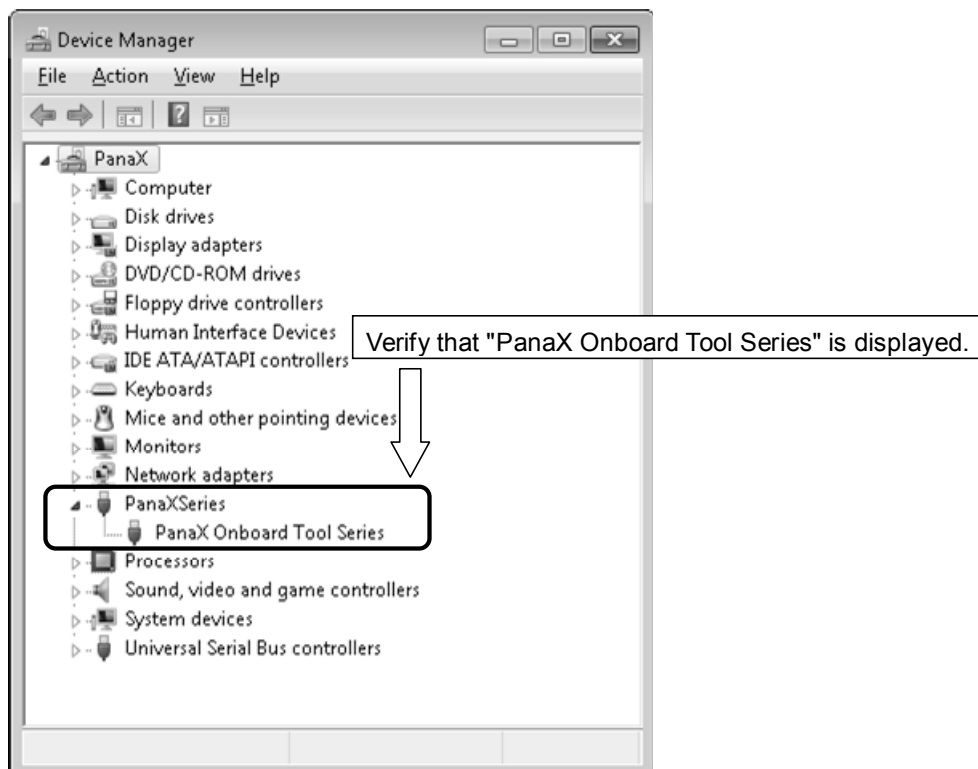

Figure 2.2.5 Device Manager
3. From the [Start] menu, select [Control Panel], and click [System and Security], and click [Device Manager] to display the [Device Manager] window shown in Figure 2.2.5. Verify that "PanaX Onboard Tool Series" is listed in the "PanaXSeries" column. If it is not listed in the column, the USB driver might not have been installed properly.